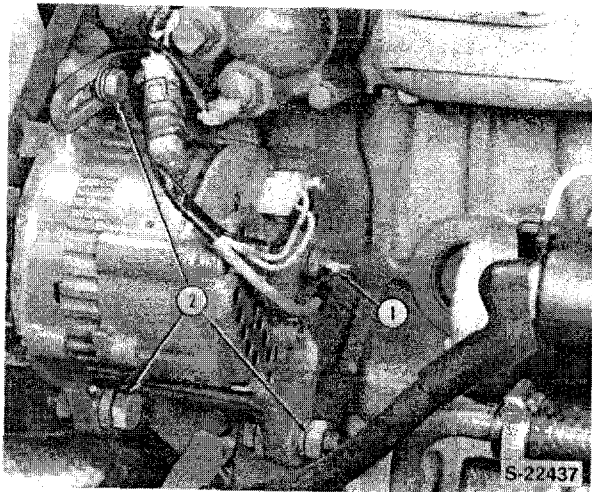

Figure 77
2. Loosen the alternator mounting bolts and remove the belt from the drive pulley, Figure 77.